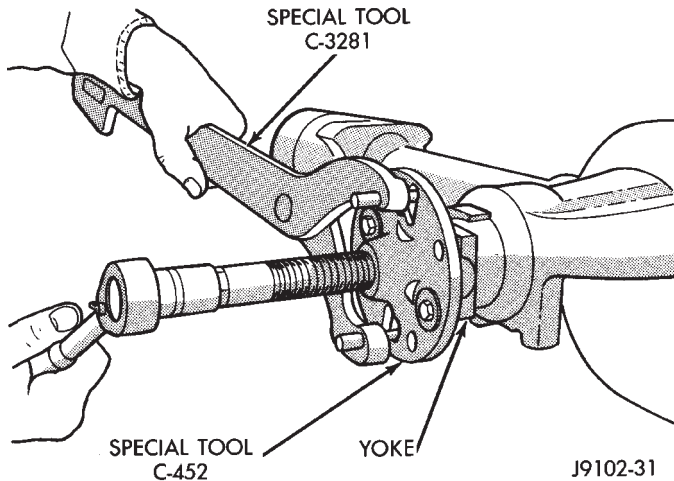

Fig. 45 Pinion Yoke Removal
- (5) Using Remover C-452 and Wrench C-3281, remove the pinion yoke from pinion shaft (Fig. 45).